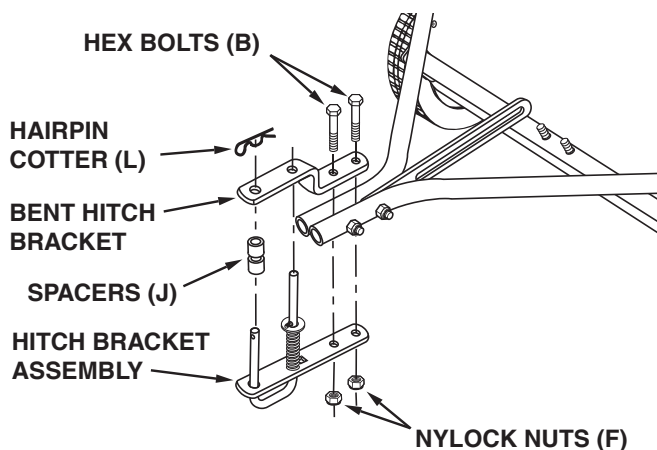

FIGURE 4
- If the tractor hitch is 10" or more above the ground, place the bent hitch bracket on top of the hitch tubes and place the hitch bracket assembly underneath the hitch tubes. Insert two hex bolts (B) through the brackets, with the rear hex bolt between the cross bolts in the hitch tubes. Secure the hex bolts (B) with two nylock nuts (F). See figure 4. **Do not tighten yet.**
- Assemble the two spacers (J) onto the hitch pin and secure the pin with the hairpin cotter (L). See figure 4.